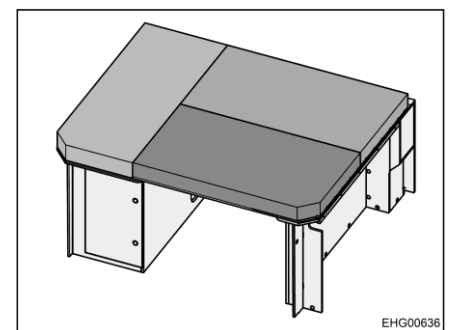

Fig. 49 Rear bed (converted for sleeping)
- Distribute the cushions on the lying surface as shown in Fig. 49.